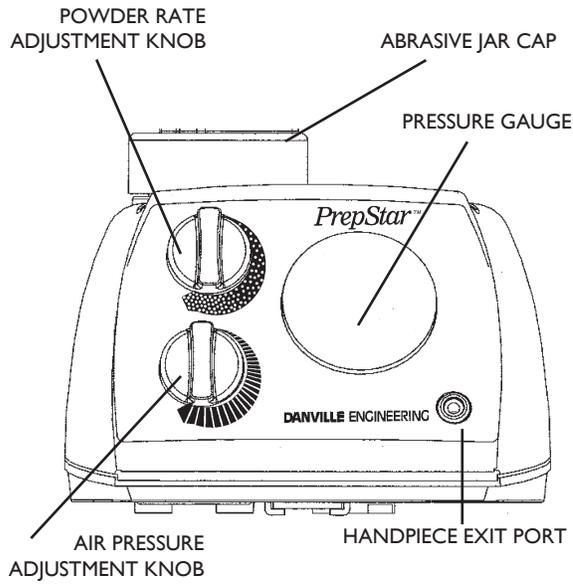

Figure 4.1
I.8 ABRASIVE SETTINGS (See Fig. 4.1)
- B. Abrasive jar:** Clean threads and o-rings. Lightly lubricate o-rings with petroleum gel (see Fig. 4.1).